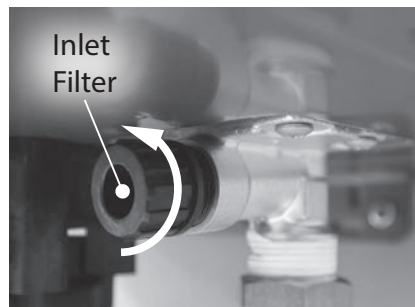

Figure 71 - Removing the inlet filter
- 8 Locate and remove the inlet filter as shown in Figure 71 to drain any residual water left in the system. Place a bucket or pan underneath inlet filter to collect water during removal.